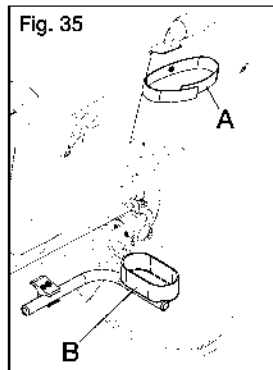

Fig. 35
- Place narrow end of cane or crutch in the bottom receiving cup (Fig. 35:B).
- Use the hook and loop fastener (Fig. 35:A) to secure the cane or crutch to the upper back cane. Confirm the canes or crutches will stay securely in place, both vertically and horizontally, when the wheelchair is in motion.